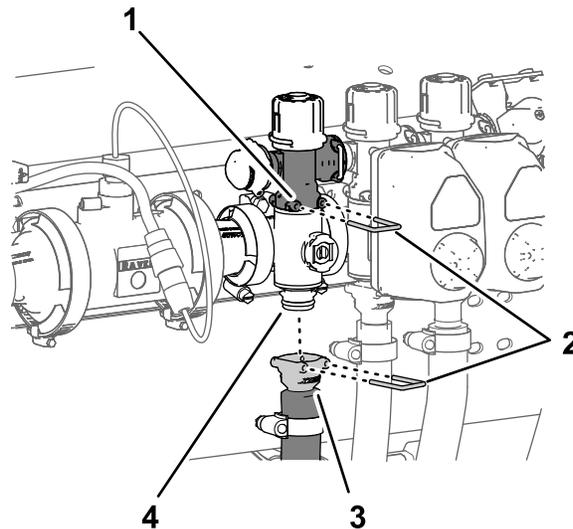

Figure 120
1. Remove the quick-connect pin that secures the quick-connect coupler for the section-bypass valve to the section-manifold valve (Figure 120).
2. Remove the quick connect pin that secures the quick-connect coupler for the section supply hose to the manifold for the quick-connect fitting of the section-manifold valve (Figure 120).